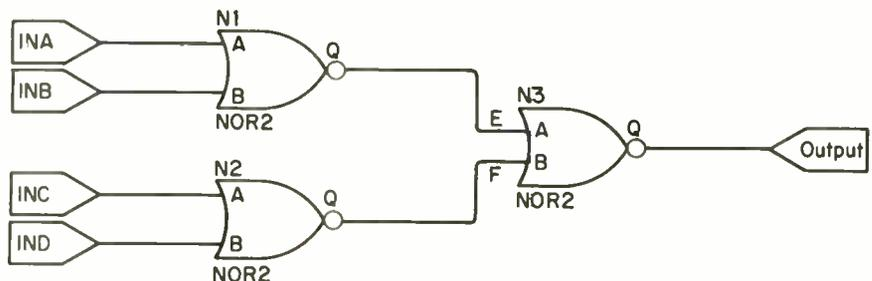

Fig. 1. Themis example circuit. The netlist input file is simple and easy to debug.
**Themis.** This is an event-driven mixed-level simulator from Prime CAD/CAM its netlist describing a circuit in the manner shown in Fig. 1, with the netlist part of the input file as follows: